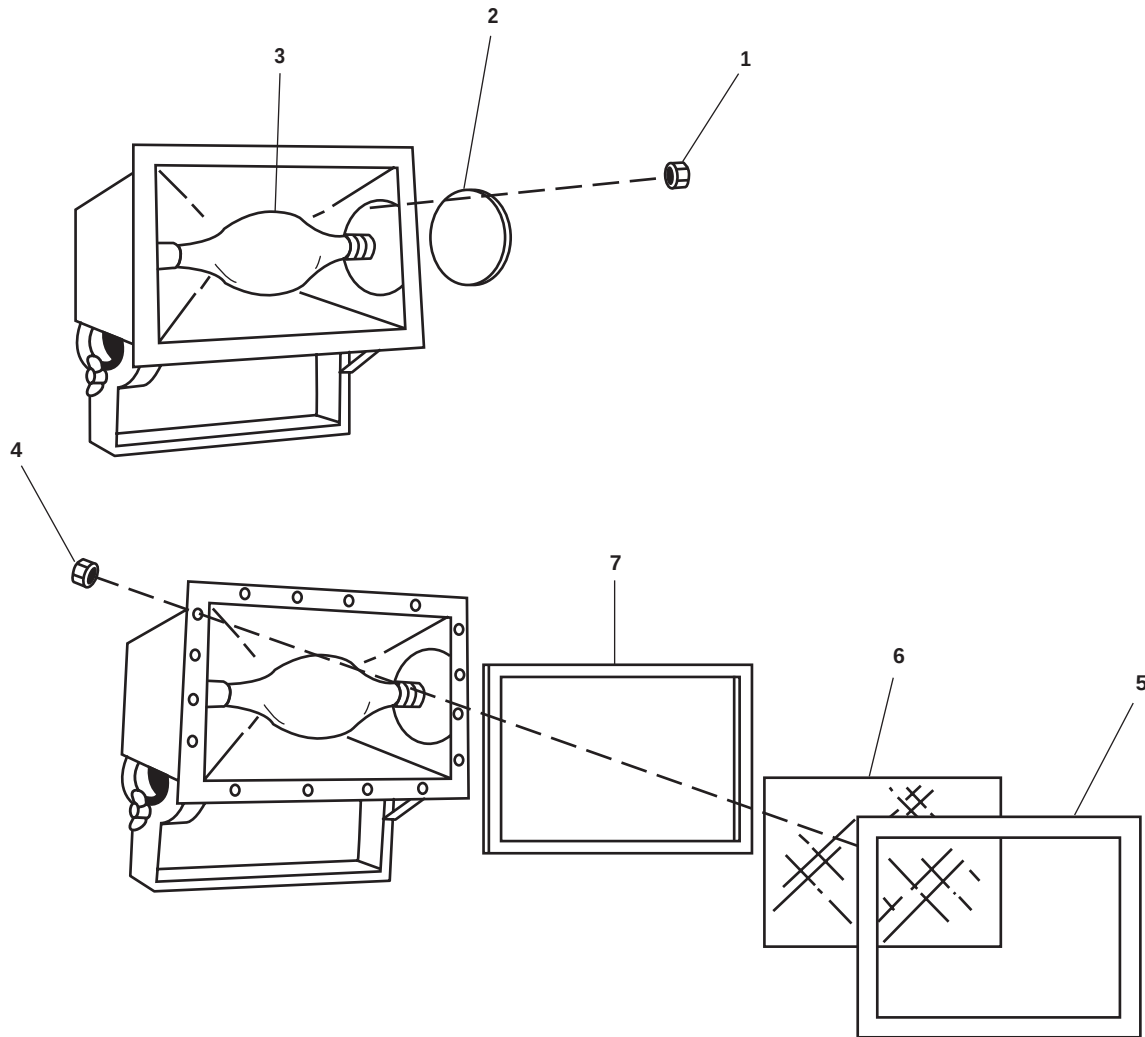

Figure 1. Metal Halide Floodlight
1. Remove the nuts (figure 1, item 1) that secure the access plate (figure 1, item 2).
2. Remove the access plate (figure 1, item 2).
3. Remove the lamp (figure 1, item 3) from the fixture.
1. Install the lamp (figure 1, item 3) in the fixture.
2. Install the access plate (figure 1, item 2) and secure it with the nuts (figure 1, item 1).
1. Remove the nuts (figure 1, item 4).
2. Remove the lens frame (figure 1, item 5), lens (figure 1, item 6), and gasket (figure 1, item 7). Discard the gasket.
1. Install a new gasket (figure 1, item 7), lens (figure 1, item 6), and lens frame (figure 1, item 5).
2. Secure the lens frame to the housing with the nuts (figure 1, item 4).